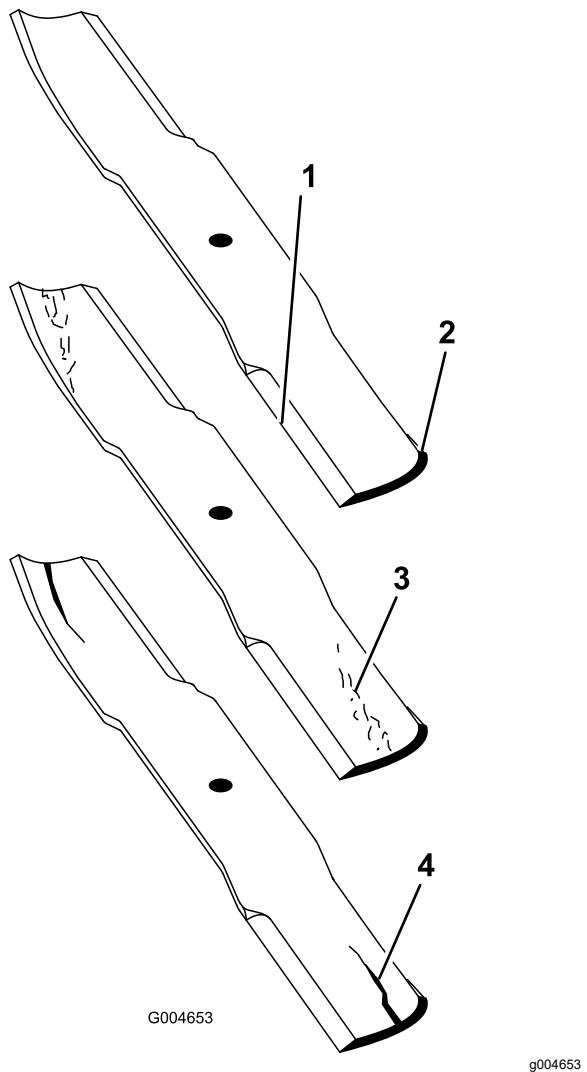

Figure 92
2. Examine the cutting ends of the blade carefully, especially where the flat and curved parts of the blade meet (Figure 92).
Note: Because sand and abrasive material can wear away the metal that connects the flat and curved parts of the blade, check the blade before using the mower. If the blade is worn (Figure 92), replace it.